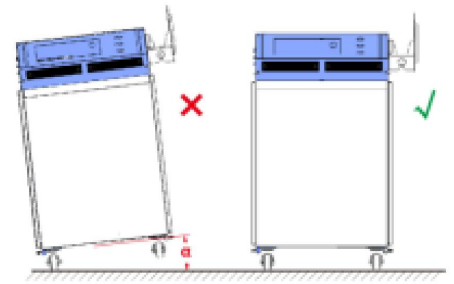

Figure 6-1 Requirements for
- It must be installed horizontally and cannot be tilted, as shown in Figure 6-1. Equipment without casters needs to be fixed with anchor bolts, and equipment with casters must lock the universal wheels.